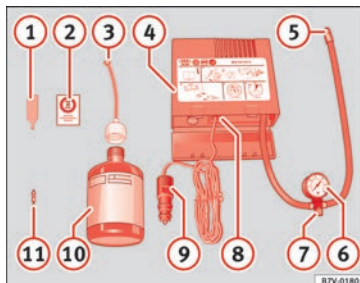

Fig. 96 Standard representation: contents of the anti-puncture kit.
» **Fig. 96:**
Screw the inflator tube » **Fig. 96** ⑤ again and check the pressure on the gauge ⑥.